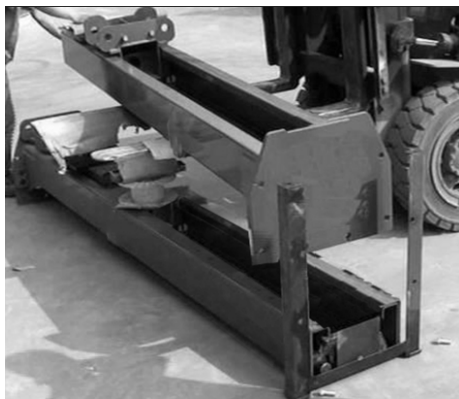

Fig. 10
4. Lift the upper column with a fork lift or hoist, loose the bolts of the upper package stand, then take out the parts in the inner column (See Fig. 10).